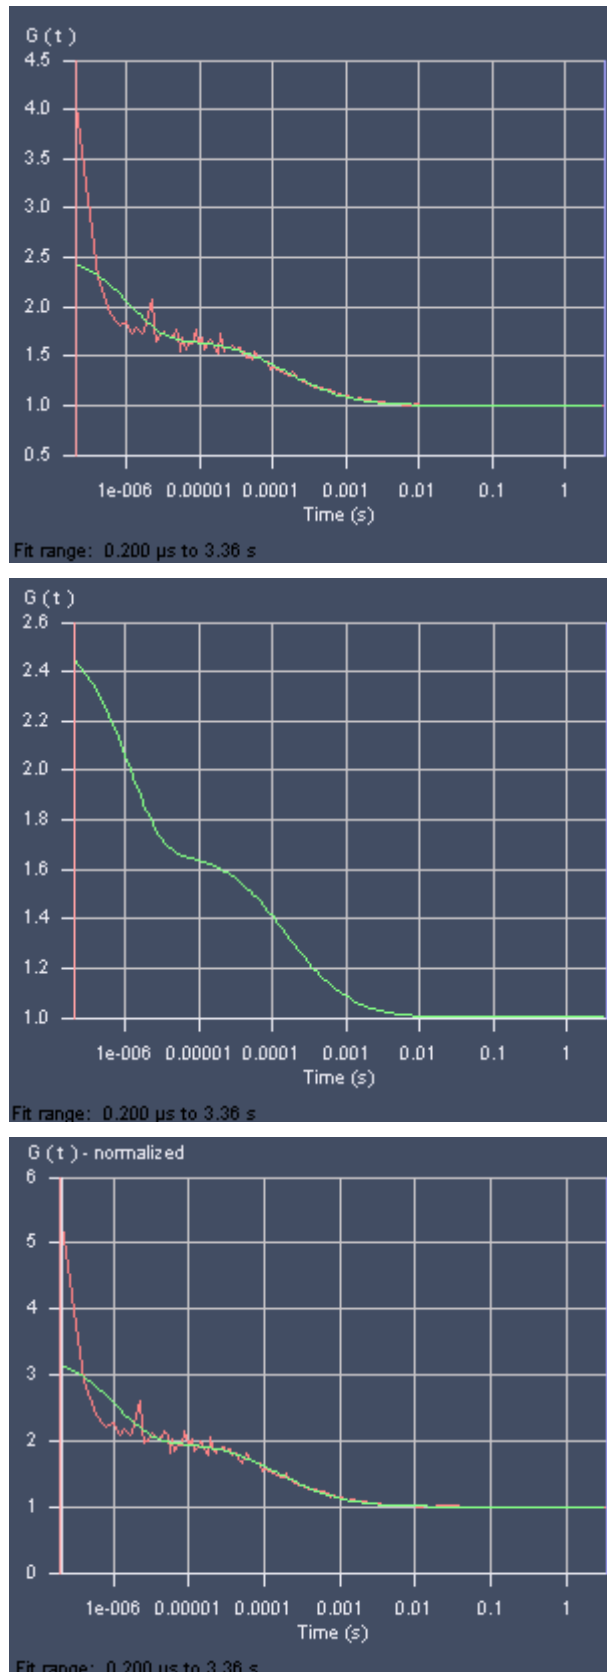

Fig. 379 Fit Correlation Curve (standard display), with fit curve only, in normalized form
- Select **Normalize** to display the correlation curves in a normalized form (Fig. 379). The amplitude of the diffusion contribution will be normalized to 2, not the total amplitude, if other term like triplet state were used in their normalized form. This option is only available for the **Fit Correlation** diagram.